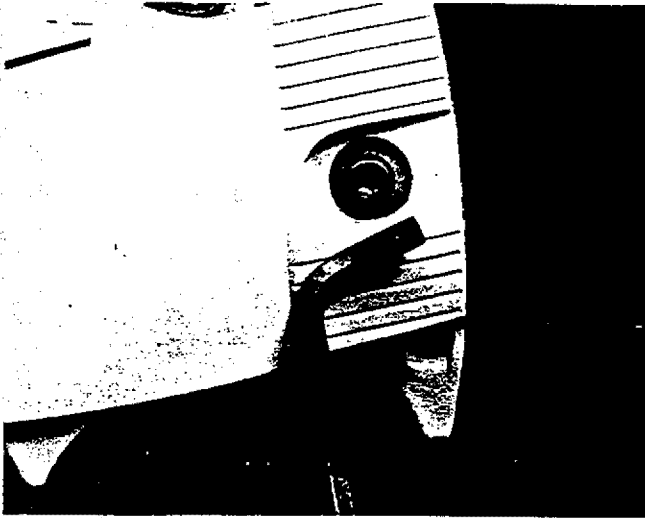
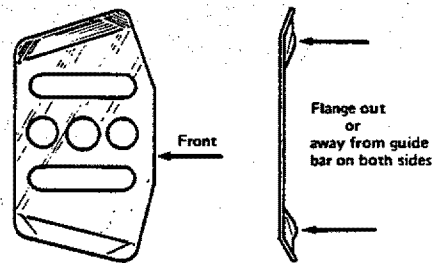

Fig. 1
Fig. 1A
1. Remove the bar mounting screw, washer, and bar clamp with the bar wrench supplied with your saw. Figure 1. After the bar clamp is removed there will be two guide plates mounted on the guide bar studs. Remove one of these plates only. After guide bar and chain have been installed, replace guide plate with bevel side to front of unit and with flange sides out (fig. 1A). Install bar clamp but do not tighten clamp screw beyond finger tight so chain adjustment can be made.